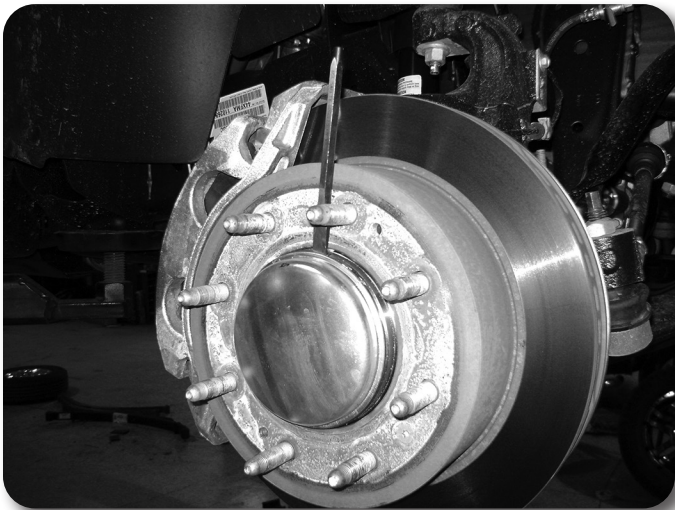

Figure 10
15. Carefully remove the hub dust cover. Save cover **Figure 10**.